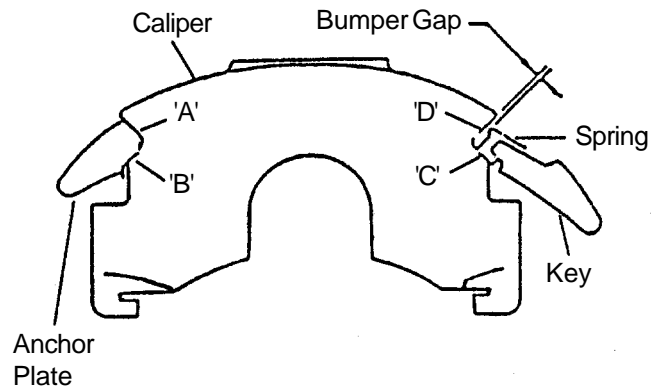

Figure 2
5. Insert a suitable prying tool between the caliper and support key making certain the tool is equally distant from each edge of the caliper. Pry firmly to assure that the caliper is seated against the three (3) sliding surfaces (A, B & C) illustrated in Figure 2.